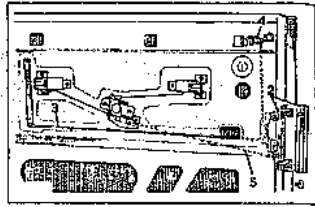

Fig. 12.10 Door lock operating mechanism components (Sec 18)
- 2 Unbolt and detach the door external handle, then remove the lever-to-lock operating rod (Fig. 12.10).